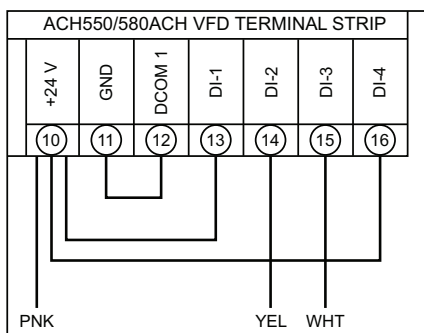

Fig. 30 — ACH550/580 VFD Wiring
- For ACH550/580 VFDs the voltage is sourced from the VFD at its terminal 10 (+24 V). SAV speed inputs are received at terminals 14 (DI-2) for low speed (40 Hz) motor operation and 15 (DI-3) for high speed (60 Hz) motor operation. See Table 13 and Fig. 30 (on page 20).